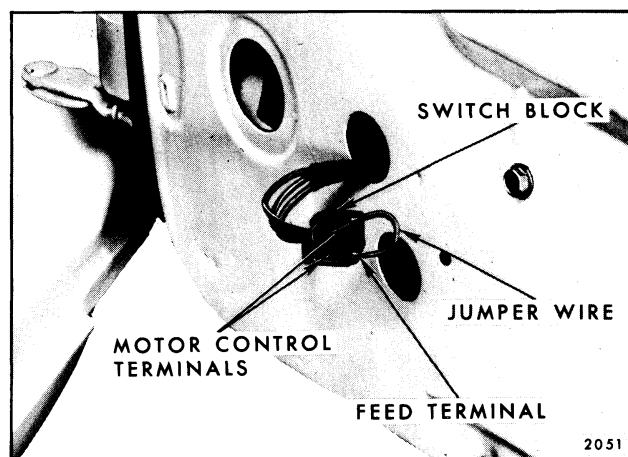

Fig. 10-8-Checking Window Control Switch
1. Insert one end of a No.12 gauge jumper wire to the switch feed terminal and the other end to one of the motor lead terminals in the switch block. Repeat this check on the remaining motor lead terminal (Fig. 10-8).
2. Insert one end of a No. 12 gauge jumper wire to the switch feed terminal and the other end to one of the motor lead terminals in the switch block (Fig. 10-8).
of the motor lead terminals of the switch block (Fig. 10-8).